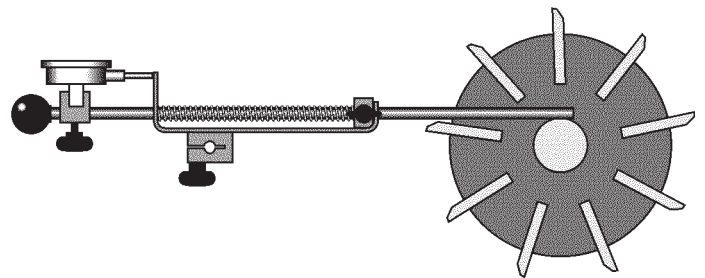

Figure 3.8 Vertical alignment
3.5.4 Rotate the gauge so that the gauge rod just touches the top of the reel's center shaft Figure 3.8. Tighten the mounting clamp.